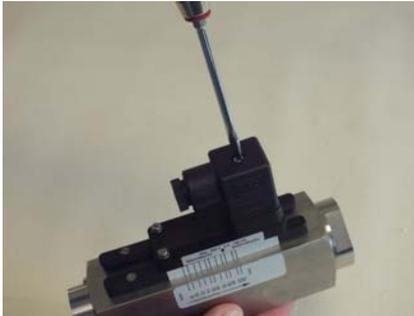

Fig. 51: Loosen female socket
1. ➤ Loosen the fixing screw of the female socket (Fig. 51) with a flat-bladed screwdriver